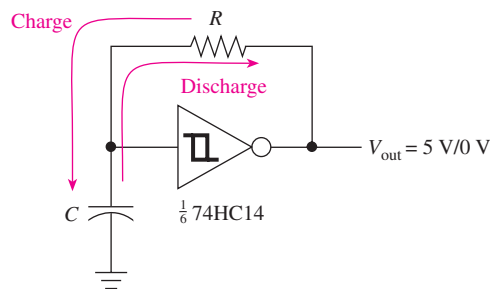

Figure 5 Schmitt trigger astable multivibrator.
The predictable charging rate of capacitors discussed in the previous section will now be used in the design of oscillator and timing circuits. A very simple astable multivibrator (free-running oscillator) can be built from a single Schmitt trigger inverter and an RC circuit, as shown in Figure 5. The oscillator of Figure 5 operates as follows:
- (a) Sketch and label the waveforms for the Schmitt RC oscillator of Figure 5, given the following specifications for a 74HC14 high-speed CMOS Schmitt inverter ($V_{CC} = 5.0$ V):